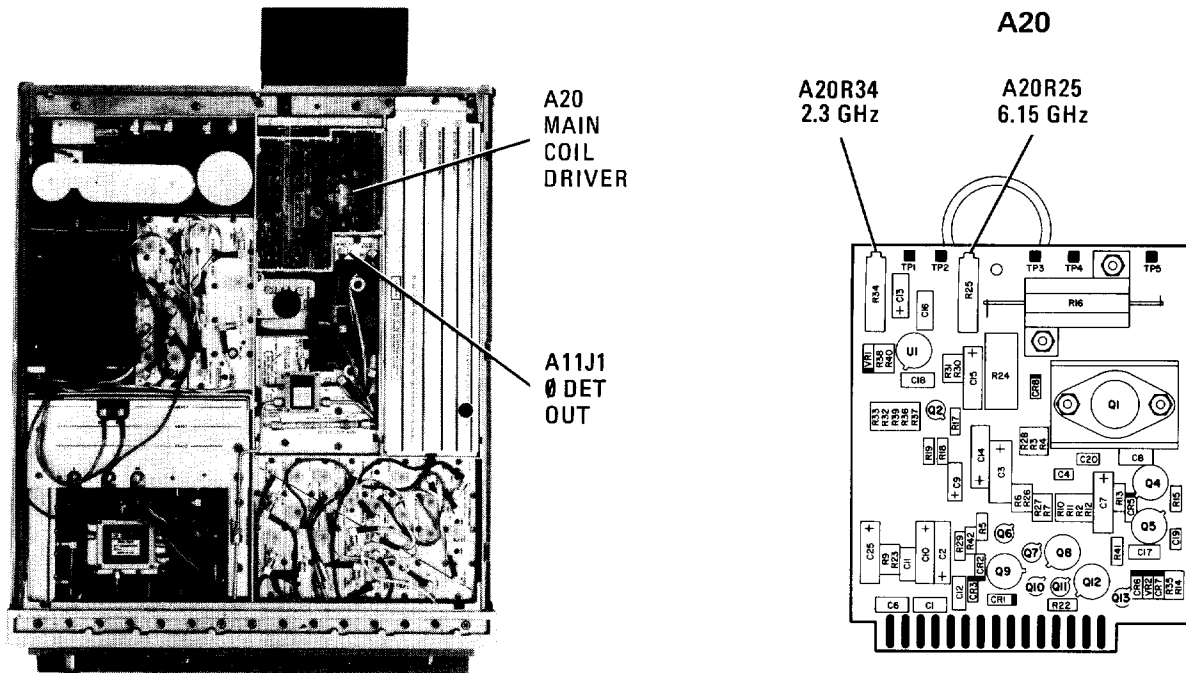

FIGURE 45. LOCATION OF SWEEP, DAC, AND MAIN COIL DRIVER ADJUSTMENTS
43. Adjust A20R34 2.3 GHz adjustment for a frequency counter indication of 2300.0 ± 0.1 MHz. Refer to Figure 45 for location of adjustments. Press **SAVE** **1**.